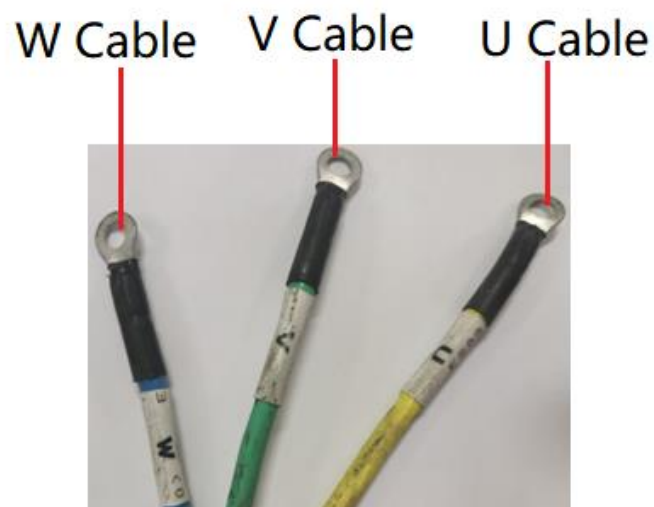

Fig. 5
1. To connect the blade controller motors, refer to the number markings for the U/V/W three-phase cables. See Fig. 5 for details.